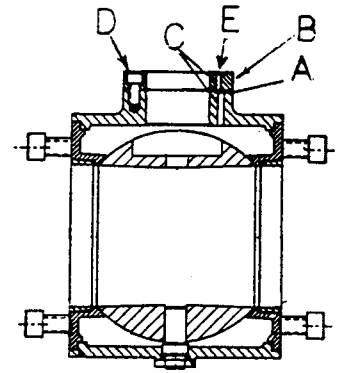

Fig.3
- D. Replace the bleed hole O-ring A, Fig. 3, on the valve neck.